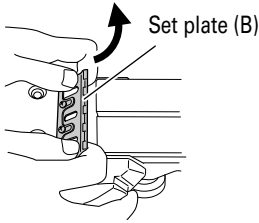

Fig. 8
- (2) As shown in Fig. 8, slide the blade in the direction indicated by the arrow to disassemble the blade.